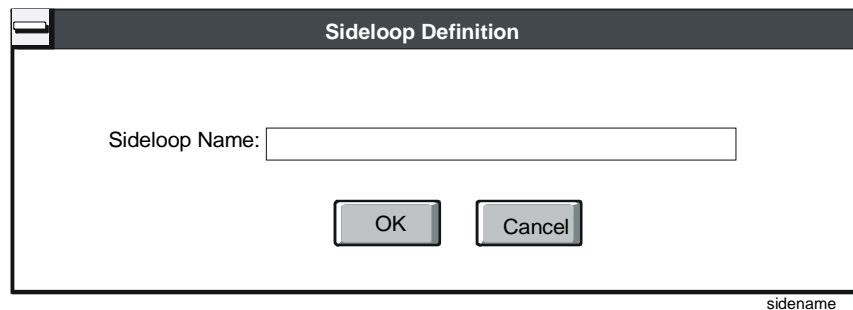

Figure 11-3: Sideloop Name Dialog Box
2. Double-click on an unused sideloop or move the focus to the unused sideloop using the arrow keys, then press Enter. The following screen displays (Figure 11-3).